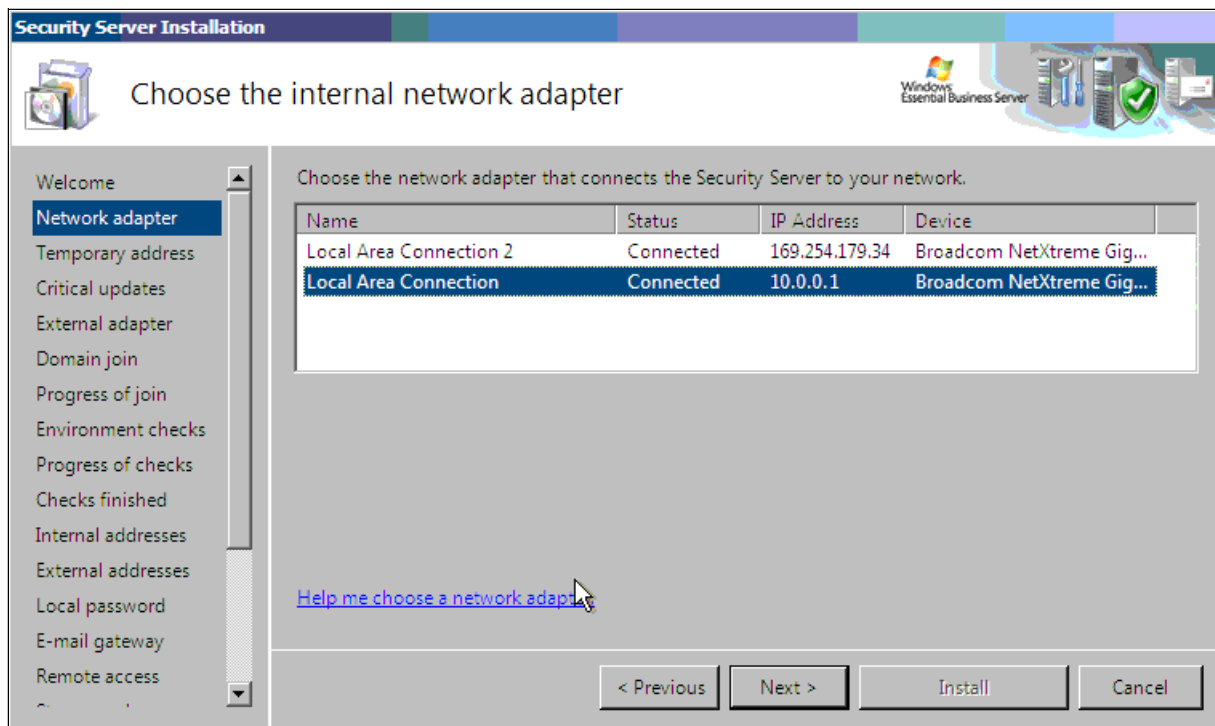

Figure 4-25 Choose the internal network adapter
10. On the “Choose the internal network adapter” panel (Figure 4-25), select the network adapter that you use to connect this server to your internal network. Verify that the network adapter is connected to your internal network. Click **Next**.